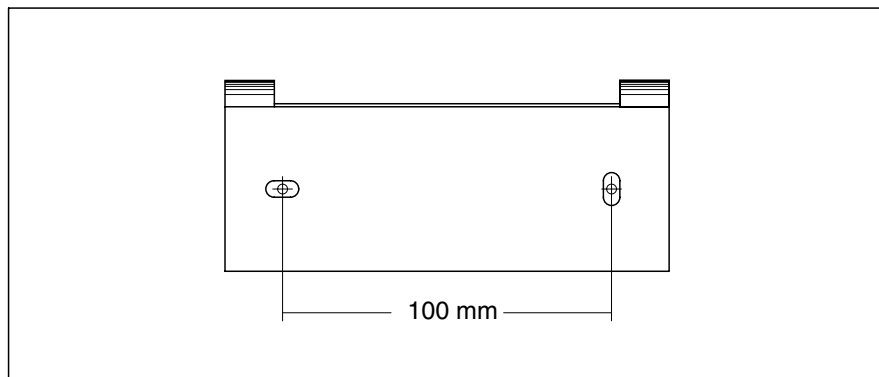

Figure 14. Marking of fixing points for wall screws
3. Mark fixing points on the wall for two screws using the wall-mounting bracket as schema (Figure 14).